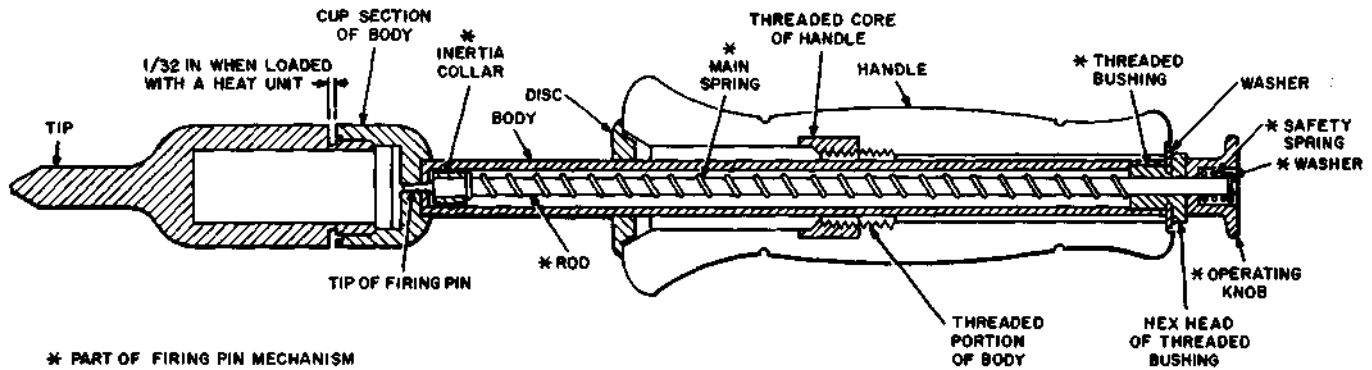

Fig. 2—Section View of KS-14582 L1 Soldering Copper with L5 Tip
**3.02** A section view of the KS-14582 L2 soldering copper is shown in Fig. 2. The body of the copper consists of a tube having a cup-shaped section at one end. The heat unit chamber of the tip screws into this cup and a small hole in the bottom of the cup permits entrance of the firing pin to fire the heat unit. The threaded core of the handle screws on the tube and the handle is positioned by a disc secured to the tube. The handle is locked in place against this disc by the hexagonal head of the threaded bushing which screws into the outer end of the tube.
make certain the heat unit is firmly clamped between the bottom of the heat unit chamber (L4 or L5 tip) and the inside top of the cup section of the body and that there is a space between the shoulders of the two of at least 1/32-inch as shown in Fig. 2.